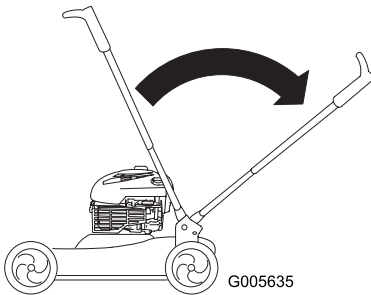

Figure 39
3. To unfold the handle, simply return the handle to the operating position (Figure 39).